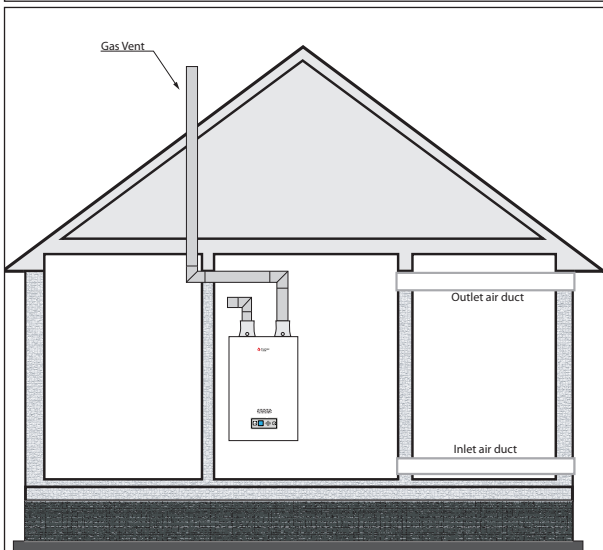

Fig. 4 - All Combustion Air from Outdoors Through Horizontal Ducts
- Where communicating with the outdoors is through horizontal ducts, each opening shall have a minimum free area of not less than 1 sq.in./2000 Btu/hr [645 mm2 per 586 W] of total input rating of all equipment in the enclosure. See Fig. 4 below.